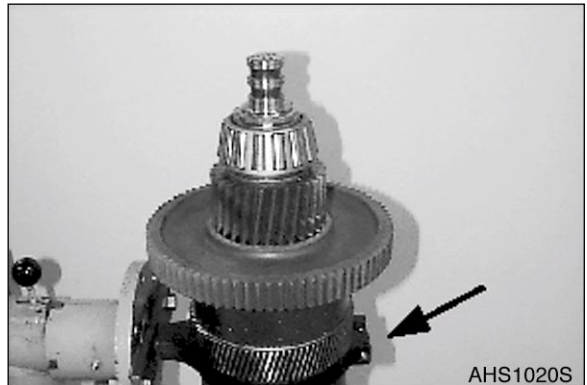

Figure 143
1. Fasten clutch using clamping ring (Figure 143) on the assembly car.